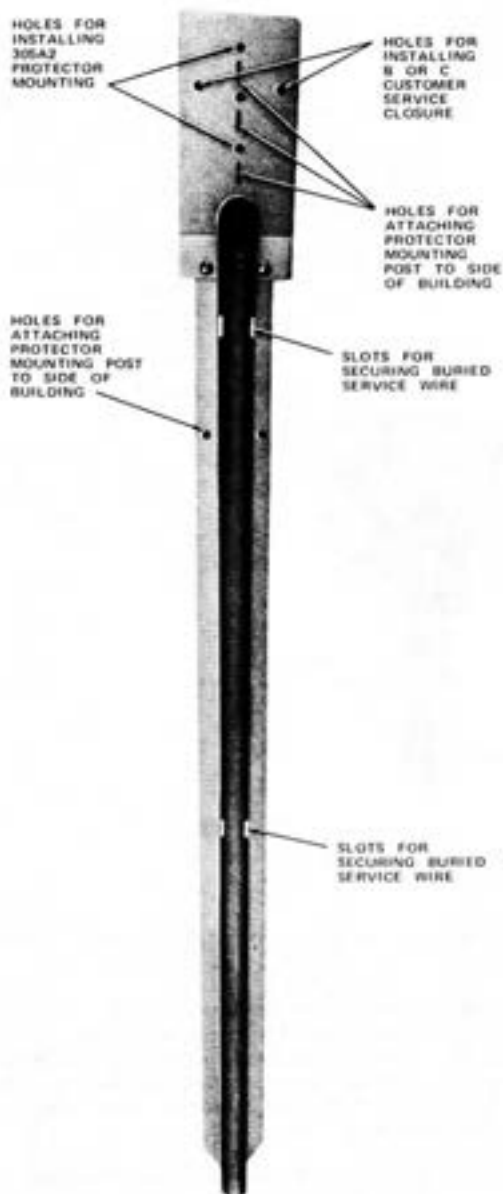

Fig. 30—Protector Mounting Post (PMP)
3.40 The protector mounting posts, PMP-38 (Fig. 30) and PMP-50, are designed to mount a 93D1 4(MD)4 protector mounting, a 305A2 4(MD)4 protector mounting, a 123- or 128-type protector, or a B customer service closure, where protectors are served by buried service wire. The PMP is available in 38-inch and 50-inch sizes to suit various conditions. It can be installed freestanding, at the edge of a mobile home, or can be installed on the side of a permanent building or a power service entrance conduit. When used freestanding, the